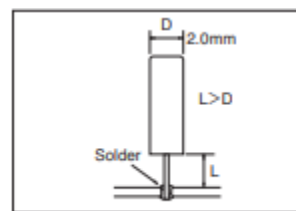

Figure 7
(2) Always leave a length greater than 2.0mm when bending a lead after soldering (see Figure 7)